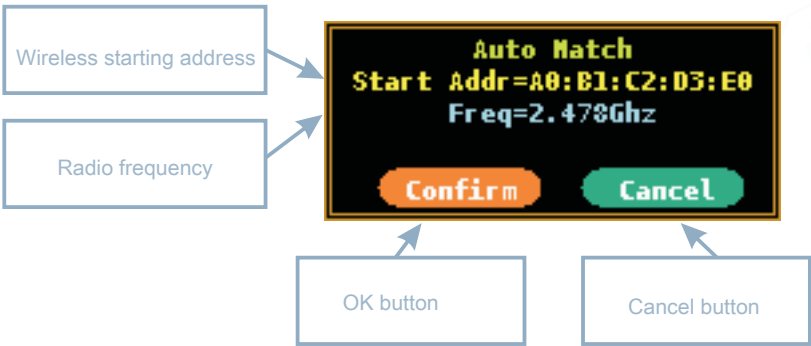
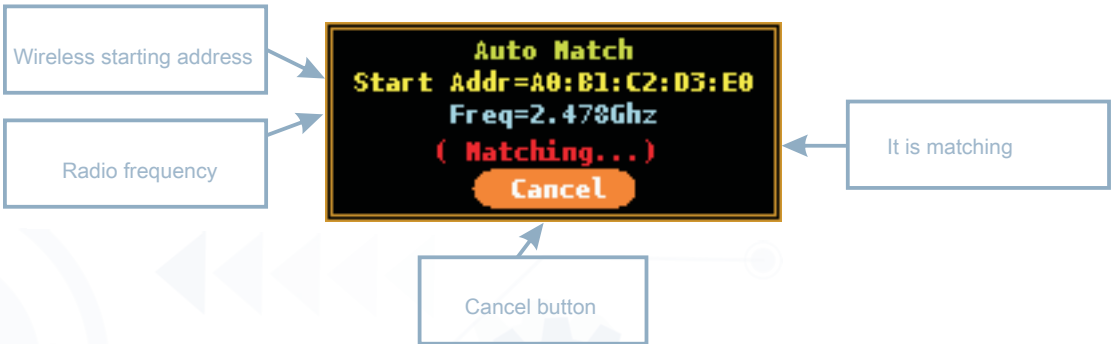

Figure 1.1
Figure 1.2
2. When no power source is connected, the key under the ribbon jump prompts to Auto Match interface (FIG. 1.1) matching wireless connection.
Display and Control: select "Auto Match" button, to enter the above interface sub Auto Match (FIG. 1.1), then Confirm Click the OK button to enter Figure 1.2, matching the wireless connection, and then waits for a reply pairing wireless power supply.